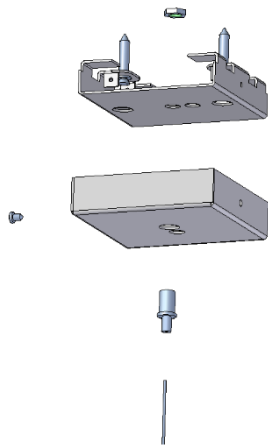

Fig. 5
1. Drill 4 holes for a plug of 5 on the ceiling according to the indications shown in Figure 5 according to the length of the ceiling light and the position of the suspensions on the ceiling light itself (more or less internal).
3. Fasten the wire retainer to the bracket using the nut, thread the steel wire through the cover first (Figures 5)